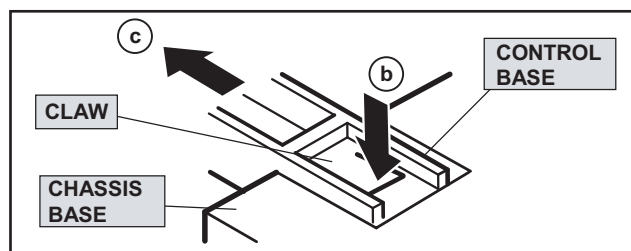

Fig.3
- (1) While pushing down the claws **[b]** as shown in Fig.3.
- (2) Remove the CONTROL BASE in the arrow direction marked **[c]**.